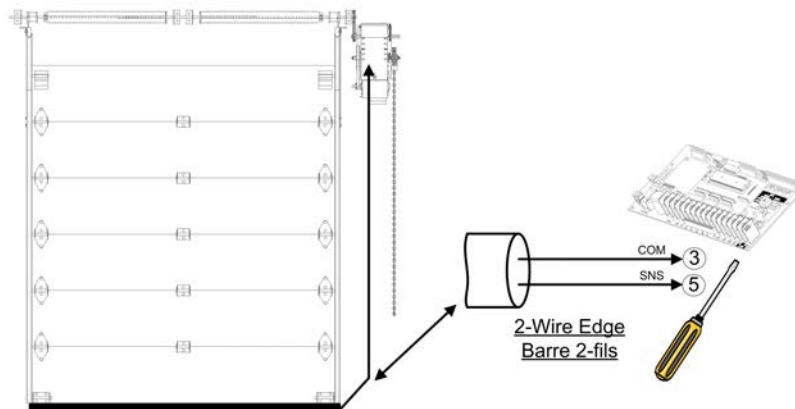

Figure 29 - Electric Reversing Edge
3. Use a coil cord or take-up reel to connect the sensing edge wires to the operator terminals. Install electric wires according to Figure 29.